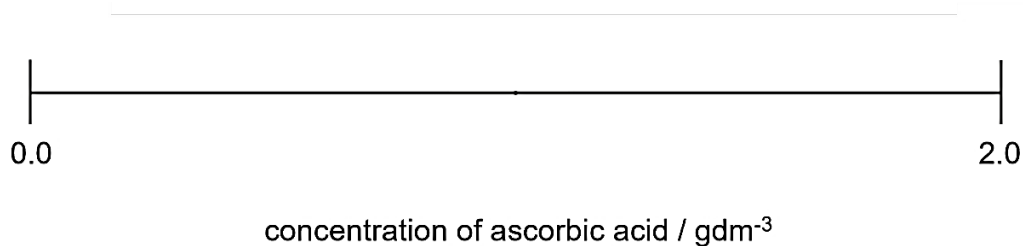

Fig. 1.3
- (v) Complete Fig. 1.3 to show the positions of each of the concentrations of ascorbic acid, recorded in (a)(iii).
Show this estimate on Fig. 1.3 by placing the letter **U** in the correct position along the line. [1]